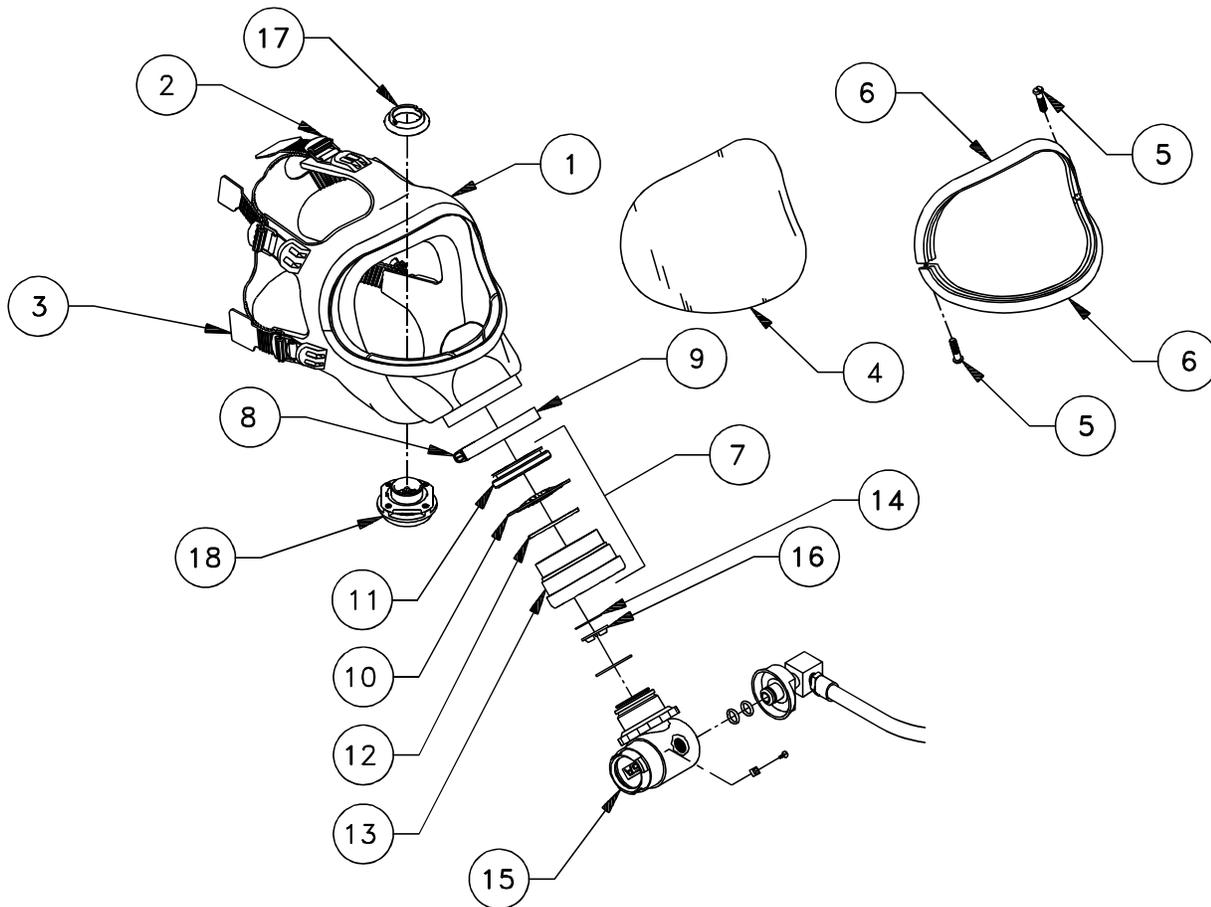

Figure 6-15. Facepiece and Components
- (1) Remove regulator from facepiece.
- (2) Place one hand over facepiece inlet.
- (3) Inhale and hold breath for 10 seconds.
- (4) The facepiece should collapse toward your face and stay there until you exhale or remove your hand, allowing air to enter.
6.7.2 Facepiece Rubber Head Harness Removal and Replacement (Figure 6-15).
6.7.3 Facepiece Lens and Ring Removal and Replacement (Figure 6-15).
6.7.4 Inlet Assembly and Speaking Diaphragm Removal and Replacement (Figure 6-15).
- (1) Place O-ring (12) in groove of speaking diaphragm housing (13).
- (2) Place speaking diaphragm (10) in housing (13) so that outer lip rests on O-ring (12).
- (3) Be sure that crimped side of speaking diaphragm (10) is facing toward you.
- (4) Replace retainer ring (11) and tighten using spanner wrench.
- (5) Don the facepiece and check face-to-facepiece seal following the procedures outlined in paragraph 6.7.1.
6.7.5 Facepiece Inhalation Disk Valve Removal and Replacement (Figure 6-15).
- (1) Press valve disk (14) onto pin in speaking diaphragm housing (13).
- (2) Carefully tuck all edges of disk (14) under housing lip.
- (3) Replace spider gasket (16) (tabs up) and press it on pin. Work the groove into place to stabilize gasket (16).
- (4) Screw MMR (15) on facepiece.
6.7.6 Facepiece Exhalation Valve Removal and Replacement (Figure 6-15).